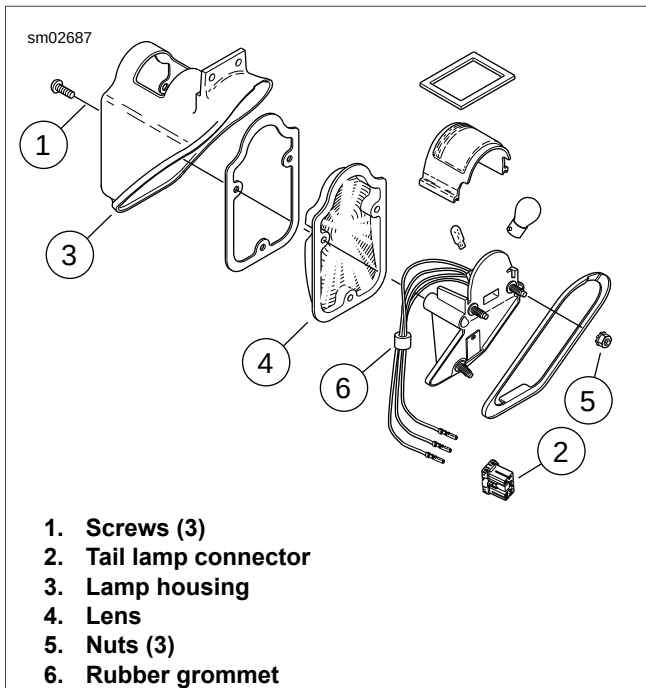

Figure 7-39. Tail Lamp Assembly
See Figure 7-39. To change a bulb, remove the lens (4), turn the bulb 1/4 turn counterclockwise while pressing the bulb into the lamp housing (3), and remove the bulb. Replace the bulb and install the lens.